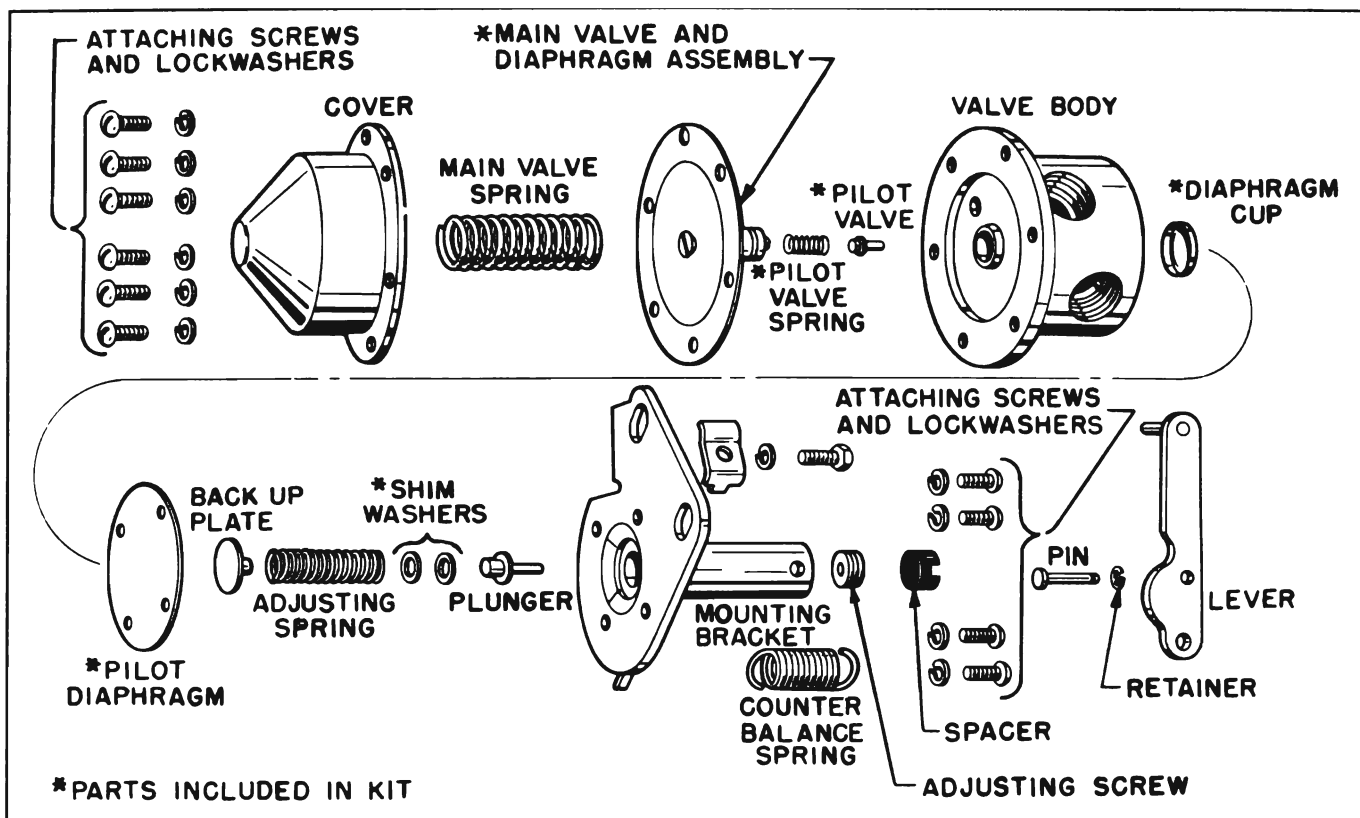

Figure 11-42—Exploded View of Hot Gas By-Pass Valve
- (f) With engine speed set at 1600 RPM, adjust suction pressure as specified in functional test chart, Figure 11-57. In the case of a rebuilt valve, it may be necessary to add or remove plunger shims to obtain proper adjustment of valve. See Figure 11-42.